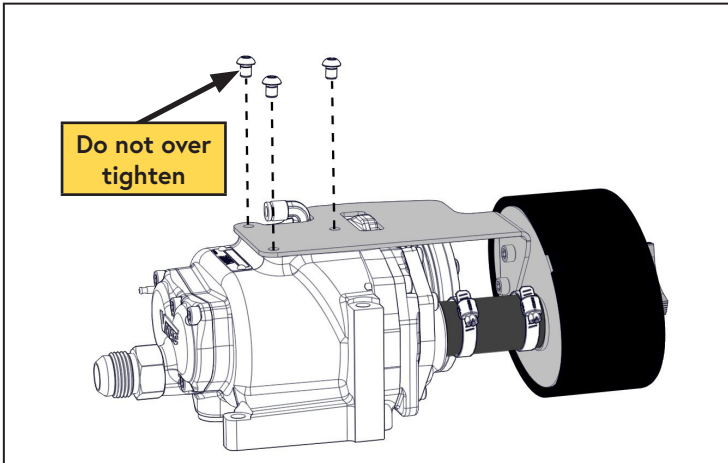

Figure 27 — Intake air filter
- Install the compressor intake air filter assembly (Figure 27)*.